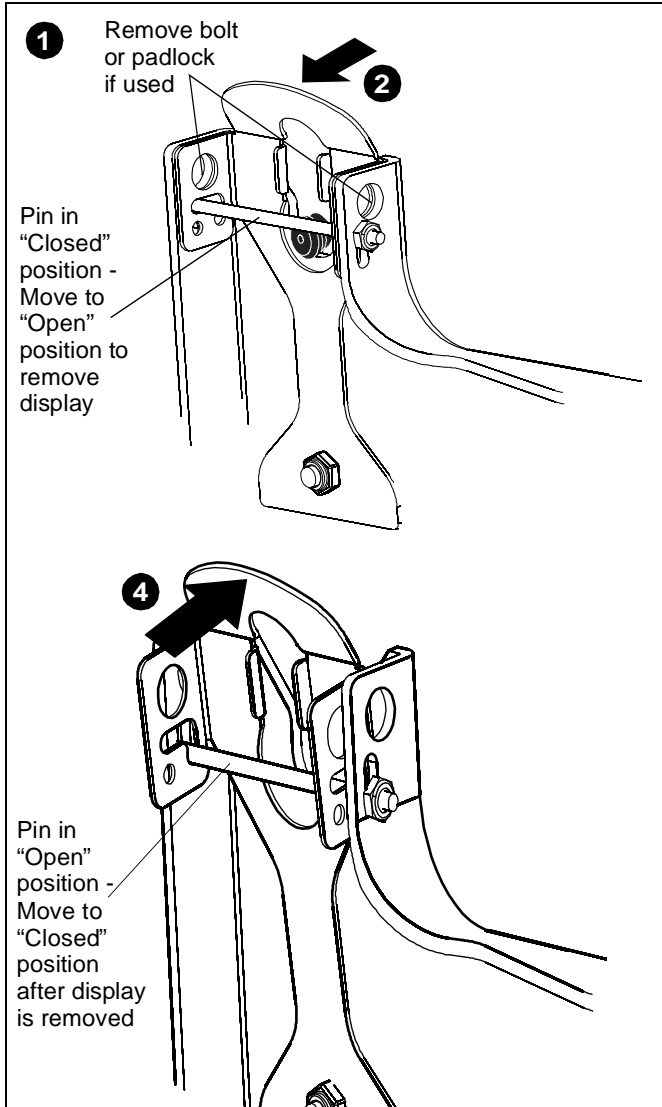

Figure 13
2. Remove bolt or padlock from faceplate (if used). (See Figure 13)
3. Pull back on flag on upper mounting hole and press pin down into “Open” position. (See Figure 13)
5. Lift up on pin and place flag back against faceplate to return it to “Closed” position. (See Figure 13)